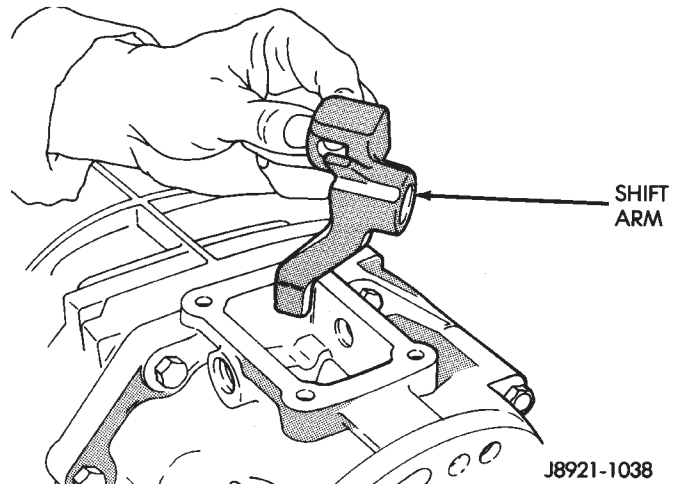

Fig. 8 Shift Arm Removal/Installation
(9) Remove shift arm (Fig. 8).